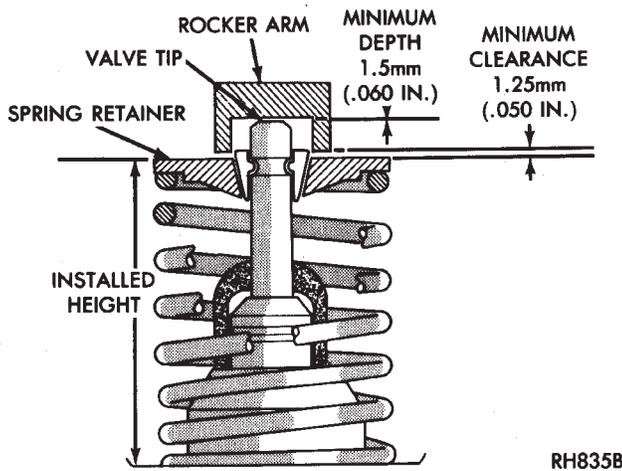

Fig. 26 Checking Spring Installed Height and Spring Retainer Clearance
(8) Check the valve spring installed height after refacing the valve and seat (Fig. 26).
(4) Check installed height of springs. Measurement is to be taken from the lower edge of the valve spring to its upper edge. Do not include the spring seat or retainer flange. Correct height is 41.2mm to 42.7mm (1.62 to 1.68 inches). If seats have been reground an additional spring seat may be required to maintain correct installed spring height.
(5) Install adjusters, rocker arms in order, and camshaft as previously described, see Camshaft-Install. Check for clearance between the projecting ears (either side of valve tip) of the rocker arms and the valve spring retainers. At least 1.25 mm (.050 inch) clearance must be present, if necessary, the rocker arm ears may be ground to obtain this clearance (Fig. 26).
(6) Checking dry lash. Dry lash is the amount of clearance that exists between the base circle of an installed cam and the rocker arm roller when the adjuster is drained of oil and completely collapsed. Specified dry lash is 0.62 to 1.52 mm (.024 to .060 inch). To completely collapse adjuster for dry lash measurement, pry off retainer cap, disassemble, drain the adjuster of oil, reassemble, and install. After performing dry lash check, refill adjuster with oil (do not reuse retainer cap/s) and allow 10 minutes for adjuster/s to bleed down before rotating cam.